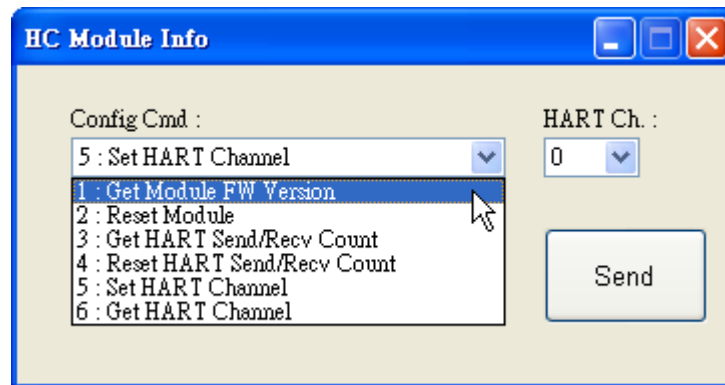

Figure 4-17: “For All” Option - Configuration Screen
**1. “For All” Option : (Like Figure 4-17)**